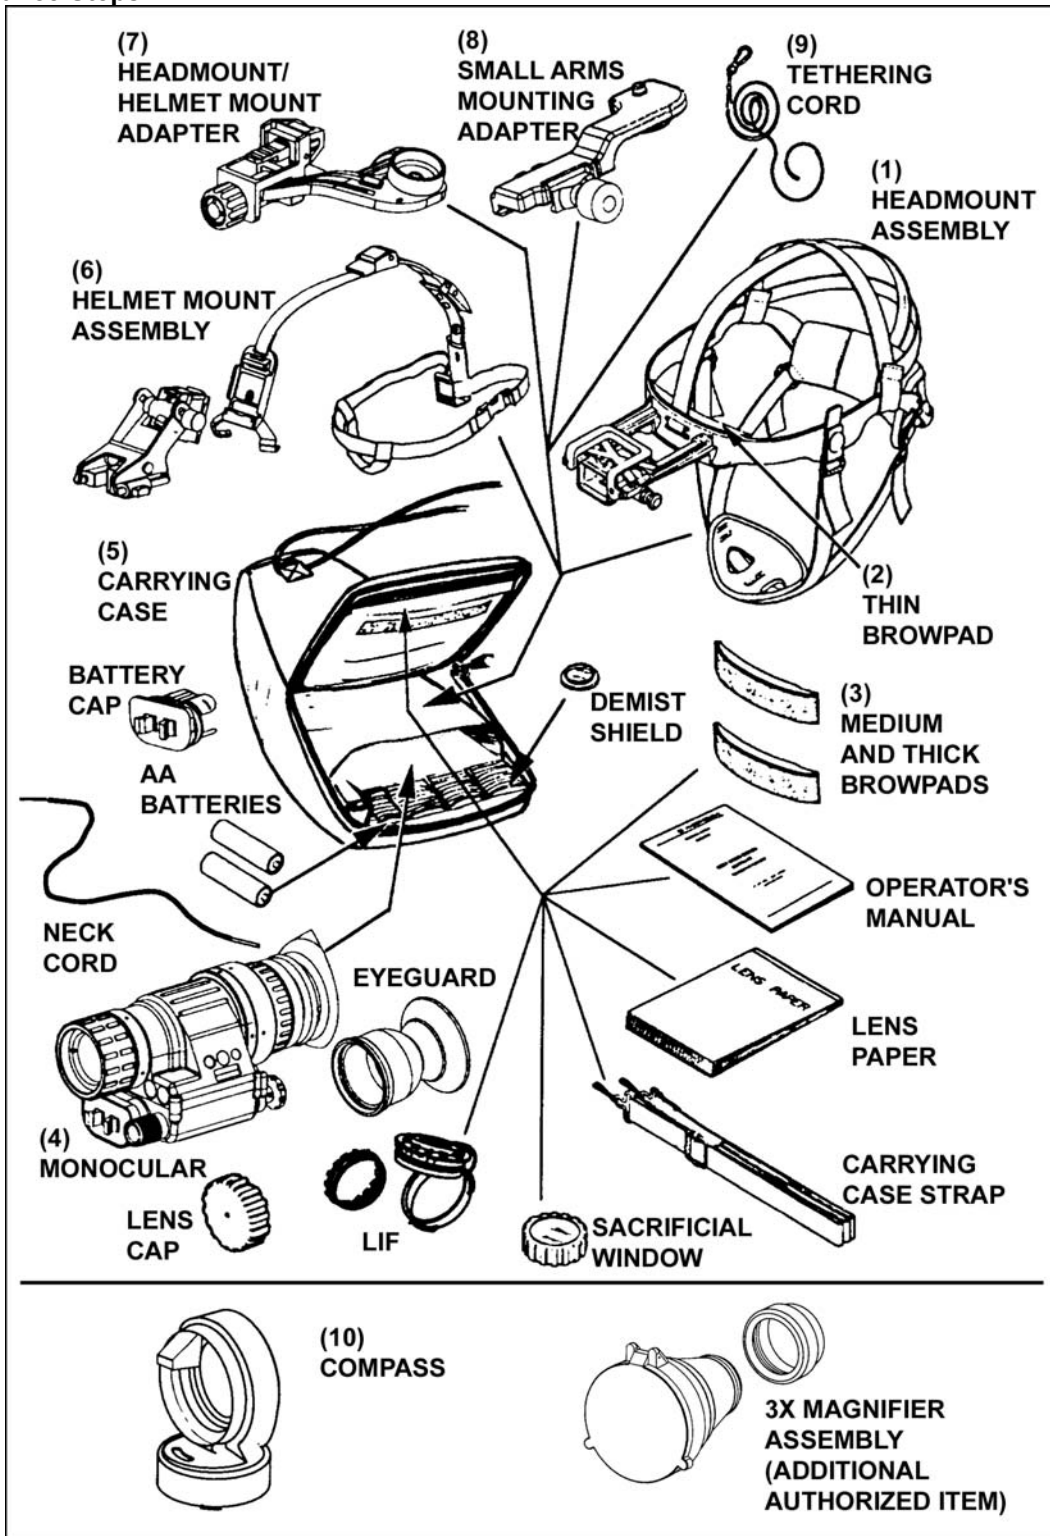

Figure 1. AN/PVS-14 monocular night vision device.
- a. Inventory carrying case contents to ensure the following accessories are present (Figure 1):